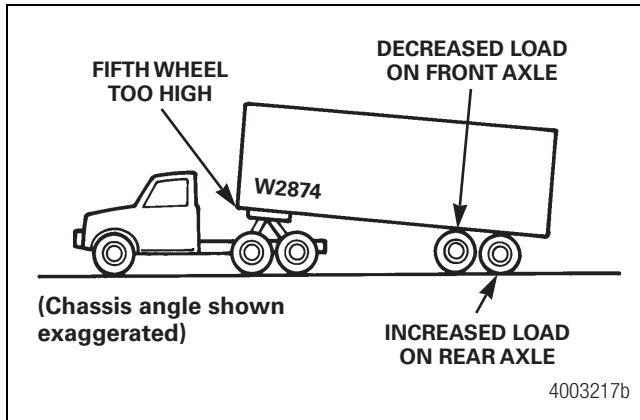

Figure 6.14
- On the suspension shown in Figure 6.14, the fifth wheel is too high, resulting in an overload of the rear axle. If the fifth wheel had been too low, the front axle would have been overloaded.